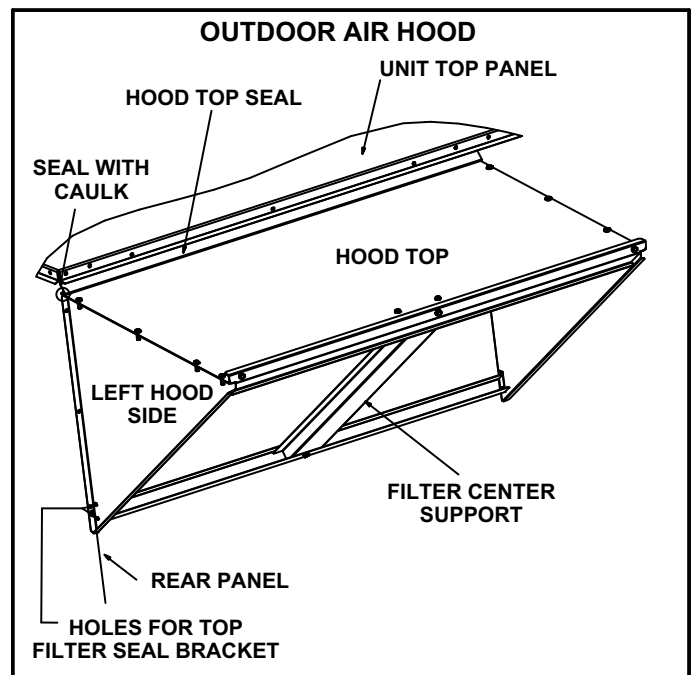

FIGURE 13
- 9- Slide two filters into slot of the bottom filter seal bracket. Insert a filter spacer between the two filters and secure it to the hood top panel. Use the provided threaded hex insert and a #10 - 32 X 1/2" thread forming screw to secure the hood top filter bracket. See figure 13.